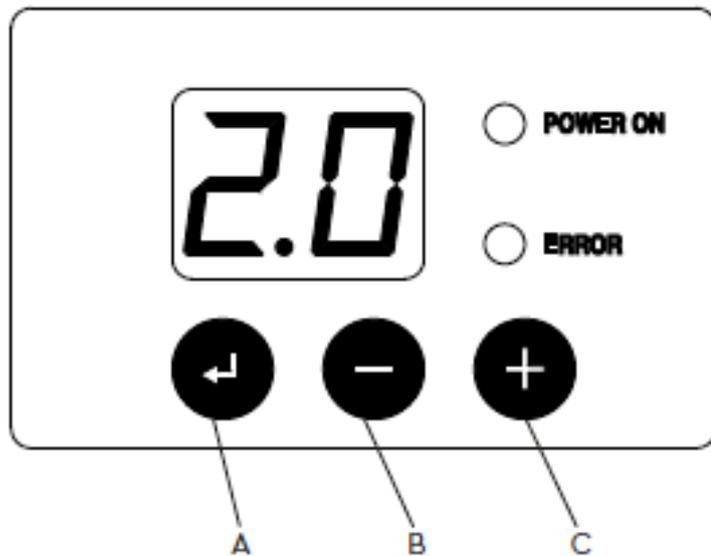

Fig. 19
6.18 Setting of Flowpress Mini see Fig. 19